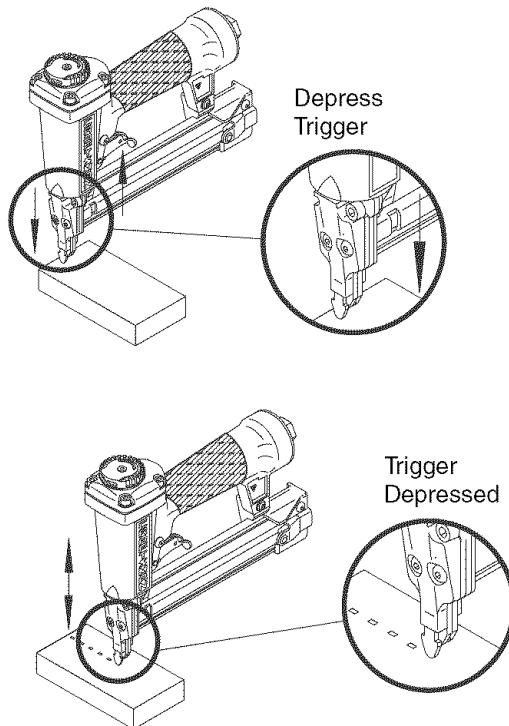

Figure 3
Refer to Figures 3 & 5 (pages 3 and 6).
- The air tool is equipped with a contact trip safety mechanism (see Figure 3) that disables tool unless contact trip is pushed against work. Hold body firmly and press contact trip on workpiece where fastener is to be applied. Pull trigger to drive fastener into workpiece.